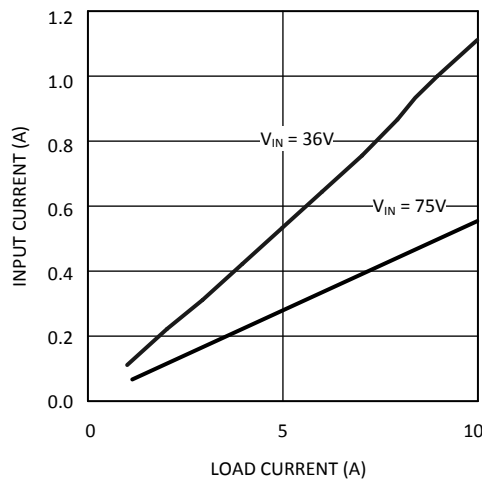
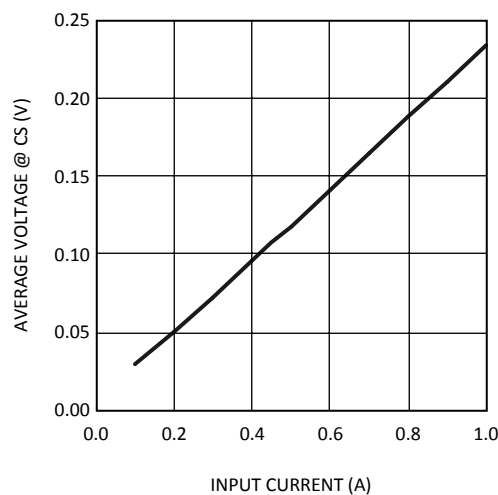

Figure 2. Input Current vs Load Current and V_{IN}
Figure 6. Average Voltage at the CS pin vs Input Current
The input connection to the board from a power supply is made to connector J1. The power supply must be capable of supplying not only the current during normal operation, but also the inrush current during start-up. For example, if the load current is set to be 1.0A, the inrush current will be approximately 250 mA peak. If the load is set to 10A, the inrush current will be approximately 1.7A peak. Once the circuit is on and operating normally, the current draw from the power supply is a function of both the load current, and the input voltage, as shown in Figure 2.
In the table of Figure 4, t_1 and t_2 are in microseconds, while F_s is in kHz. F_s is the frequency of the internal oscillator, which is twice the switching frequency of each MOSFET. All the voltages are in volts with respect to circuit ground. L2 Output is the regulated output at J2, and typically has less than 10mV of ripple. The spikes at the rising edges of V4, V5, V7, and V9 are due to the leakage inductance in T1. The voltage rating of the MOSFETs (Q1, Q2) is determined by the amplitude of these spikes (V4). Their current rating is determined by the input current shown in Figure 2, plus a ripple component of approximately 10% in this design.
Monitoring the input current provides a good indication of the circuit's operation. If an overload condition should exist at the output (a partial overload or a short circuit), the input current would rise above the nominal value shown in Figure 2. Transformer T2, in conjunction with D3, R9, R12 and C10, provides a voltage to pin 8 on the LM5030 (CS) which is representative of the input current flowing through its primary. The average voltage seen at pin 8 is plotted in Figure 6. If the voltage at the first current sense comparator exceeds 0.5V, the LM5030 disables its outputs, and the circuit enters a cycle-by-cycle current limit mode. If the second level threshold (0.625V) is exceeded due to a severe overload and transformer saturation, the LM5030 will disable its outputs and initiate a softstart sequence. However, the very short propagation delay of the cycle-by-cycle current limiter (CS1), the design of the CS filter (R9, R12, and C10), and the conservative design of the output inductor (L2), may prevent the second level current threshold from being realized on this evaluation board.